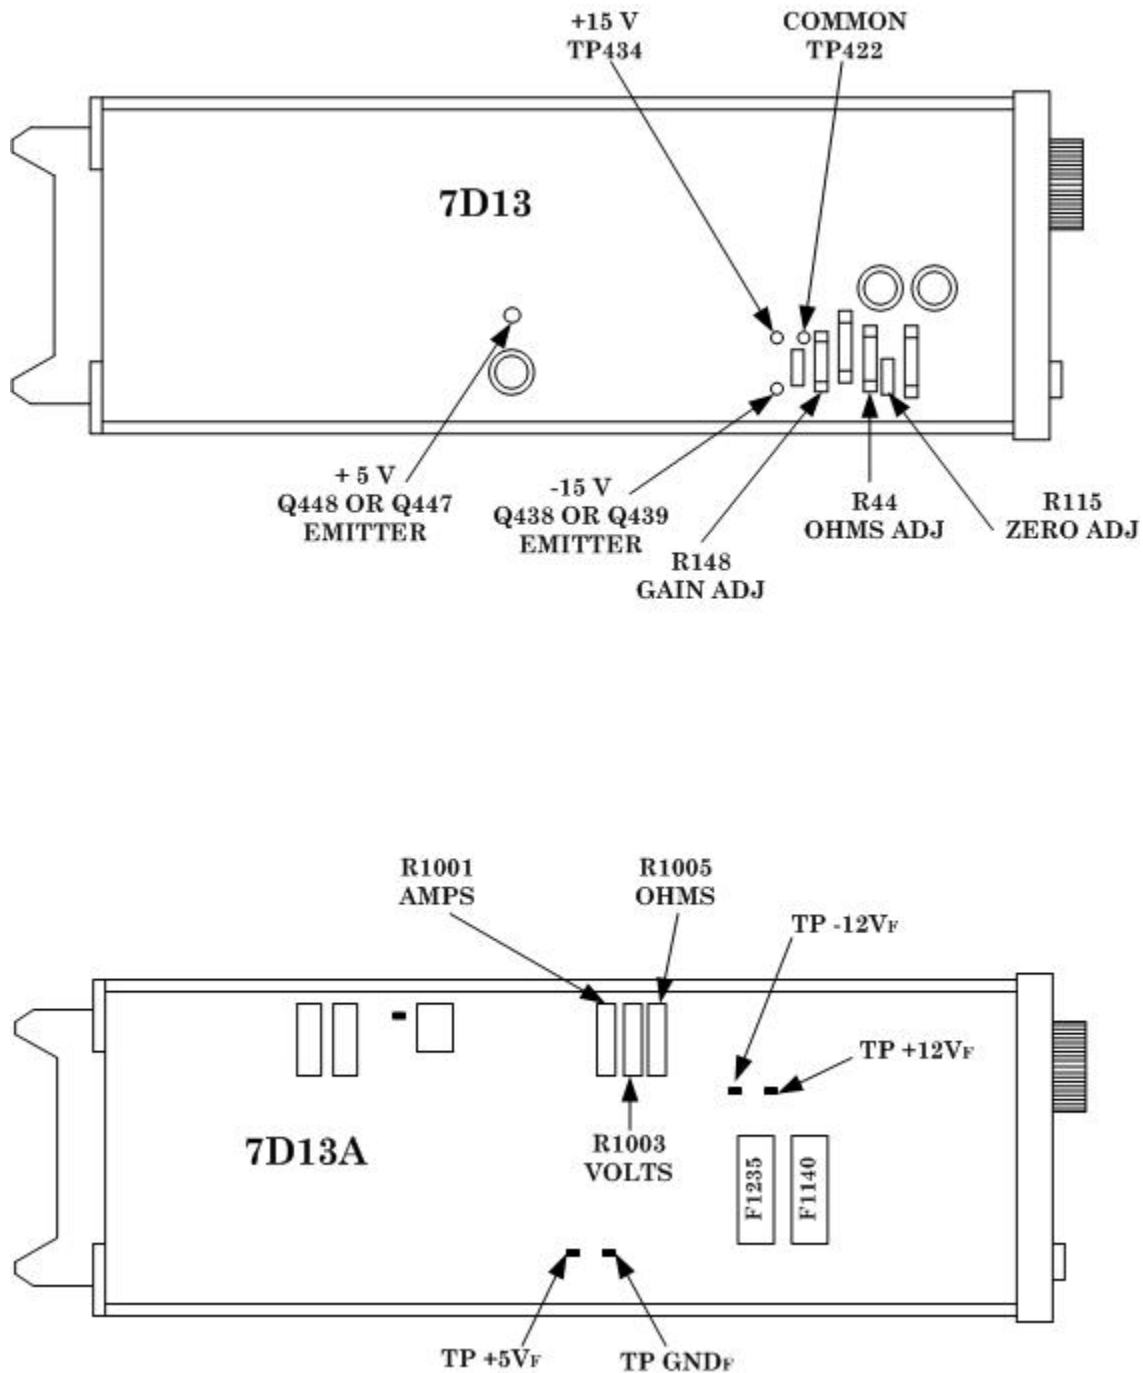

Figure 1. Left side view - adjustments and test points.
- i. Adjust R115 **ZERO ADJ** (fig. 1) to obtain indicator oscilloscope readout display of 0.000. Best adjustment is obtained when readout display just changes from -0.000 to +0.000.
(1) Adjust calibrator for 2.0000 volts.
(2) Connect frequency counter between TP206 (located near center of circuit board assembly) and ground. If frequency counter does not indicate between 79.5 and 80.5 kHz, adjust R203 (located adjacent to TP206) to obtain an indication of 80 kHz. Remove frequency counter connection.
(3) Adjust R148 GAIN ADJ (7D13) R1003 VOLTS (7D13A) (fig. 1) to obtain indicator oscilloscope readout display of 2.000 volts (R).
(4) Adjust calibrator for -2.0000 volts.
(5) Adjust R148 GAIN ADJ (7D13) R1003 VOLTS (7D13A) (fig. 1) to obtain indicator oscilloscope readout display of -2.000 volts.
(6) Repeat (1) and (3) through (5) above for best compromise between positive and negative 2.000 volts.
- (1) Set calibrator output to 2.00 mA and adjust R1001 AMPS (fig. 1) for a 2.000 mA indication on indicator oscilloscope.
- (1) Set calibrator for 19.000 k ohms.
- (2) Adjust R44 OHMS ADJ (7D13) R1005 OHMS (7D13A) (fig. 1) to obtain indicator oscilloscope readout display of 19.00 k ohms (R).
- (1) Connect multimeter between floating power supply COMMON TP422 (fig. 1) and each test point listed in table 6. Multimeter will indicate within limits specified.
- (2) Connect multimeter between floating power supply common, TP GND_F (fig. 1) and each test point listed in table 7. Multimeter will indicate within limits specified.